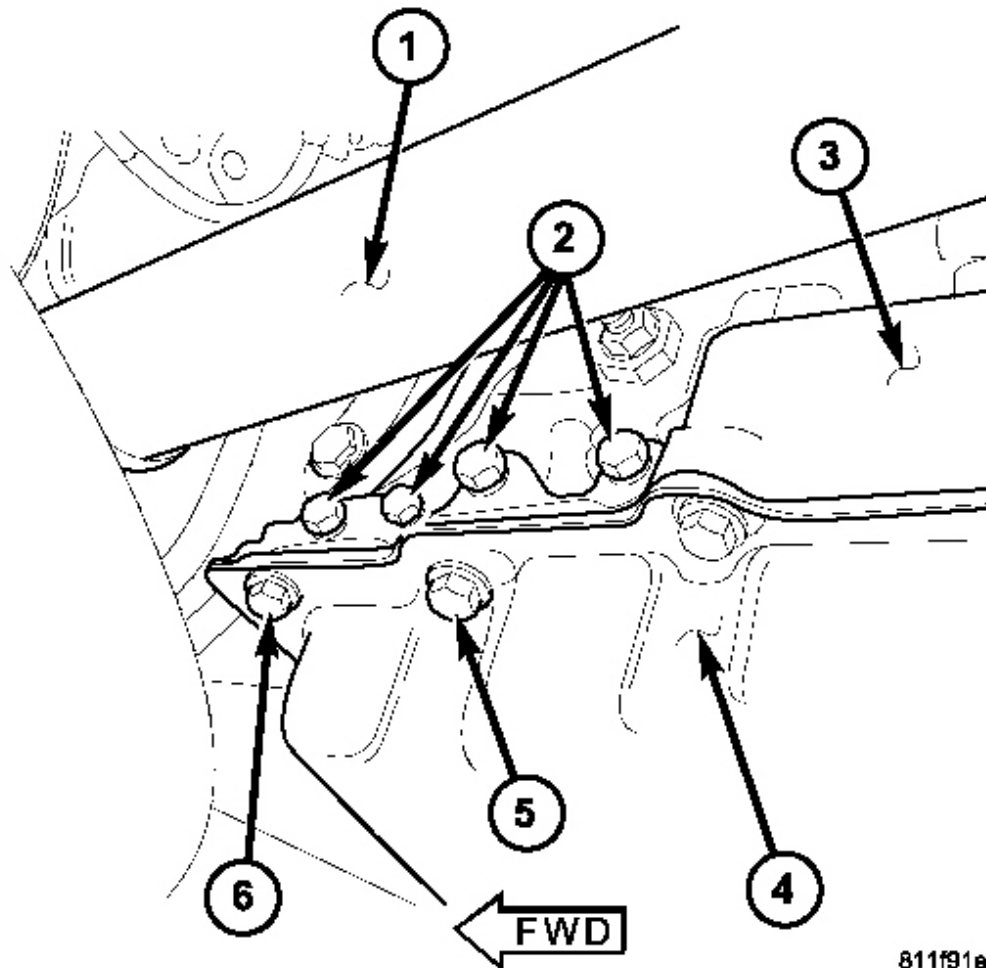

Fig. 150: Locating Oil Pan Bolts & Pressure Ports
NOTE: Before installing the oil pan bolt (5) in the bolt hole located between the torque converter clutch on and U/D clutch pressure tap circuits, it will be necessary to replenish the sealing patch on the bolt using Mopar® Lock & Seal Adhesive. See Fig. 150.